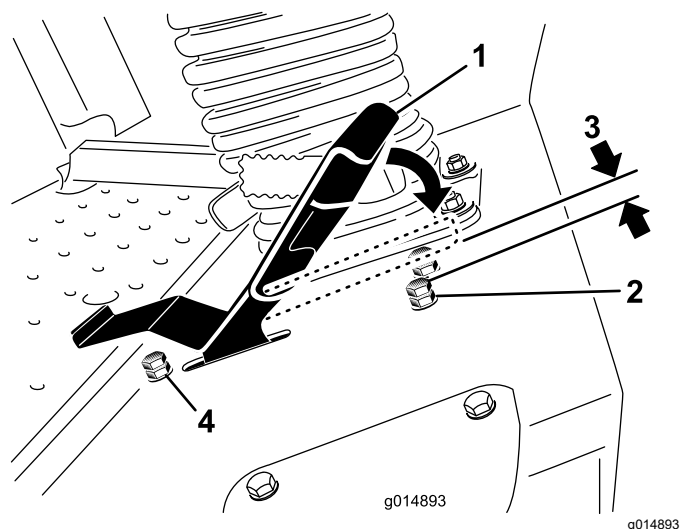

Figure 87
3. Loosen the jam nut on the stop bolt for the traction pedal (Figure 87).